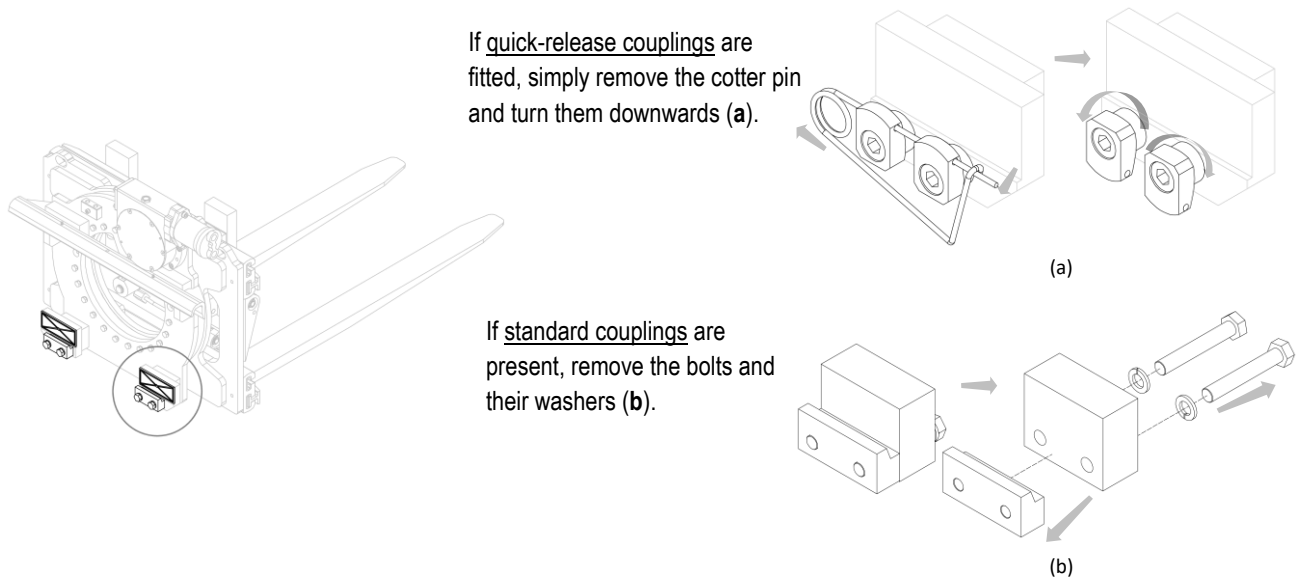

Figure 7
5. Remove the lower couplings from the equipment and grease the sliding gibs (see *Figure 7*).